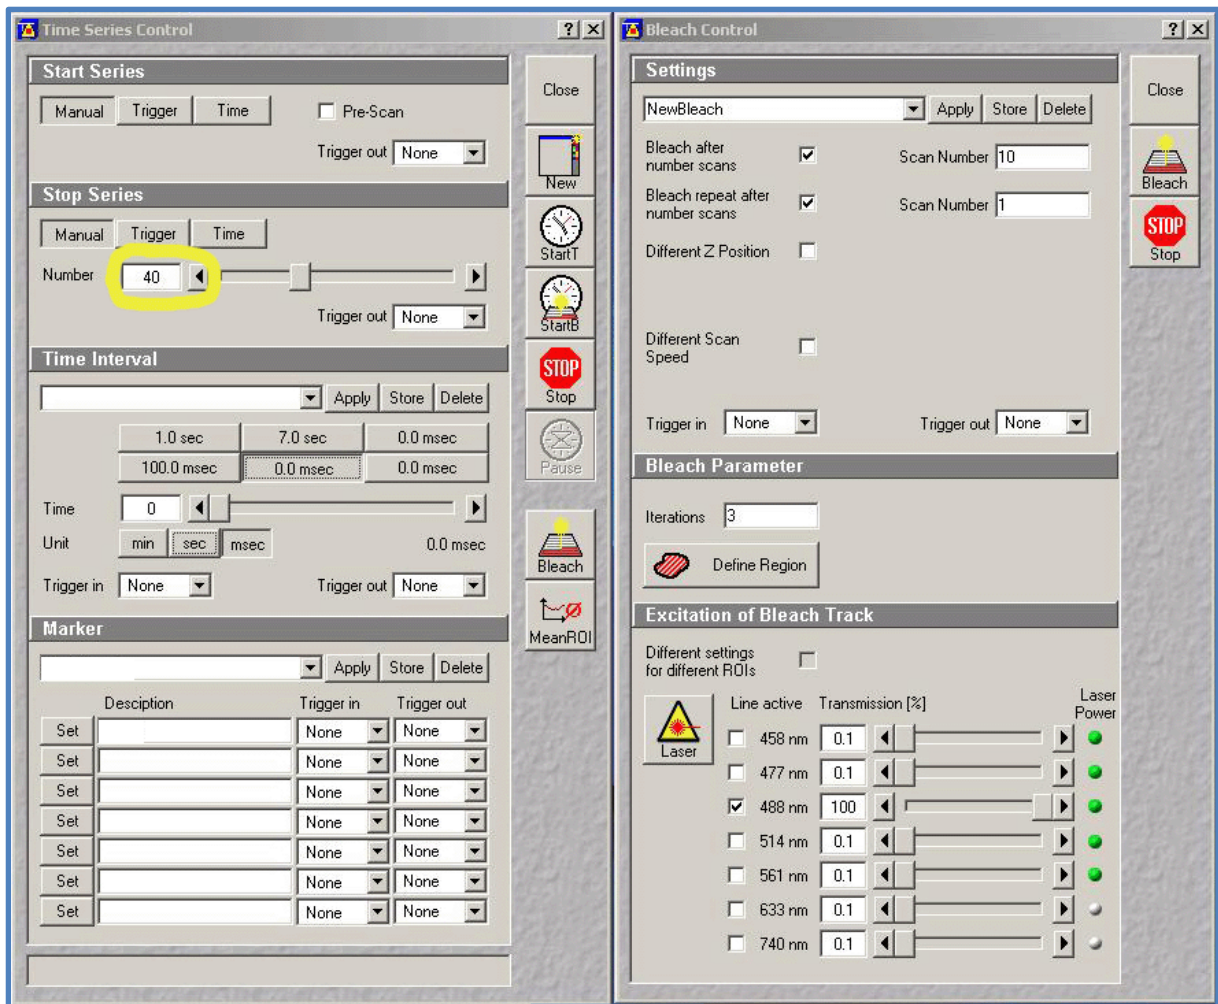

Figure 3.
- Set up the bleach parameters Edit Bleach - Bleach control panel, as shown in [Figure 3]. Set up the required number of pre-bleach scans [Bleach after number of scans (tick) Scan number 10]. Set to scan once after each bleach event [Bleach repeat after number of scans (tick) Scan number 1]. Set the number of bleach iterations for each bleach event [Bleach parameter - Iterations 3].
- Set up a time-series to include the pre bleach scans and then a reasonable number of bleach events (e.g. I estimate that 90 bleach iterations will be more than enough to bleach my sample. In the case of the example shown in Figure 3 each bleach event is set to 3 iterations so 30 bleach events will give me 90 bleach iterations. There is one scan after each bleach event so 30 plus the 10 pre-bleach scans = 40 scans in total).